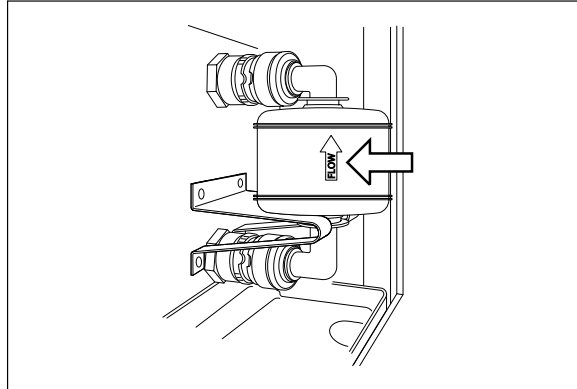

Figure 7.43
3. With the FLOW indicator pointing upwards, attach a new air filter by fitting into the two connectors until they click (see Figure 7.43).